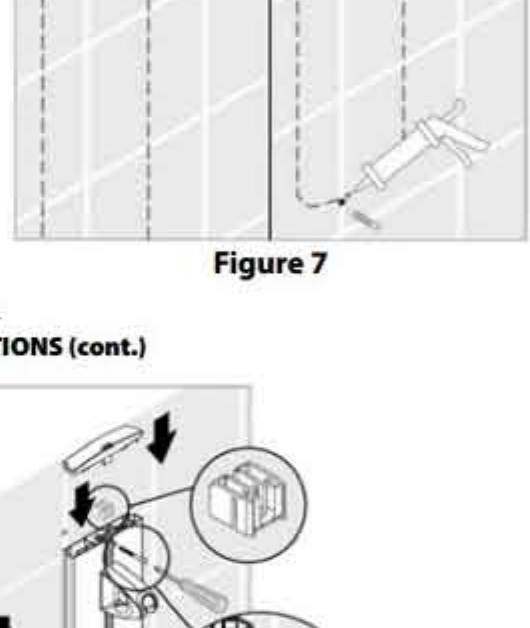

Figure 7
- Drill the screw holes with a 6 mm bit suitable for the wall surface. (See Figure 7.)
- Install the anchors. (See Figure 7.)
- Seal the wall around the anchors with waterproof sealant. (See Figure 7.)